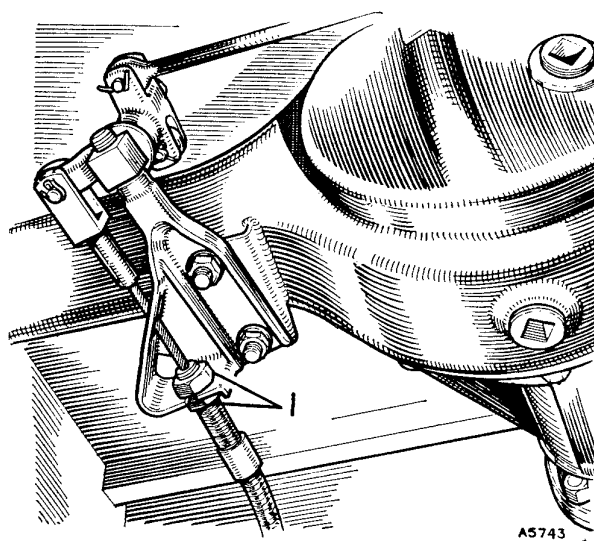

Fig. M.4
- (19) Turn the adjuster back just sufficiently for the wheel to rotate without the brake-shoes rubbing.
- (20) Repeat the operations in (17) to (19) for the other rear brake.
- (21) Adjust the rear brake-shoes as detailed in (11) to (16) (early cars) or (17) to (20) (later cars).
- (22) Block both front wheels and jack up the rear of the car.
- (23) Apply the hand brake so that the pawl engages with the third notch on the ratchet.
- (24) Adjust the hand brake cable, with the sleeve nut (Fig. M.4), until it is just possible to rotate each wheel by heavy hand pressure. Both wheels must offer equal resistance in order to get full braking power.
- (25) Release the hand brake and check that both wheels rotate freely.